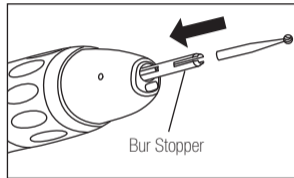

Fig. 3
- 2) Insert the attached Bur Stopper fully into the chuck. (Fig.3)